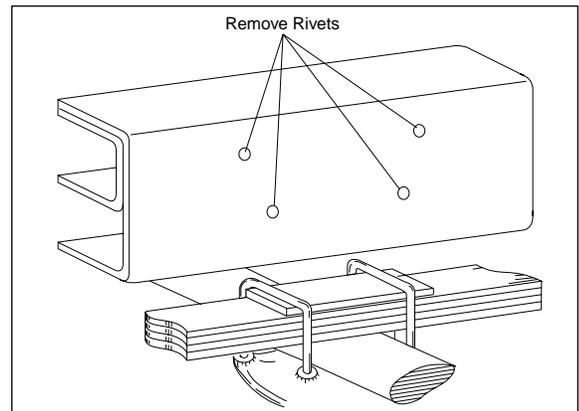

Figure 4
2. Remove the jounce bumper bracket from the side of the frame. Drive the rivets out of the holes that are in the frame (Figure 4). CAUTION: There are lines on the inside of the frame on the passenger side. Use extreme caution to avoid damaging these lines in any way during the removal process.